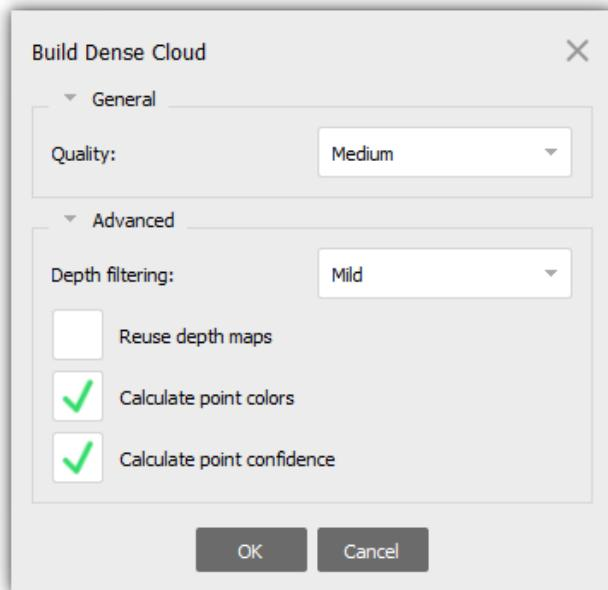

Figure 4.17 Screenshot of 'Build Dense Cloud' dialog displaying selected settings.
4. Click Workflow → Build Dense Cloud (Figure 4.17)